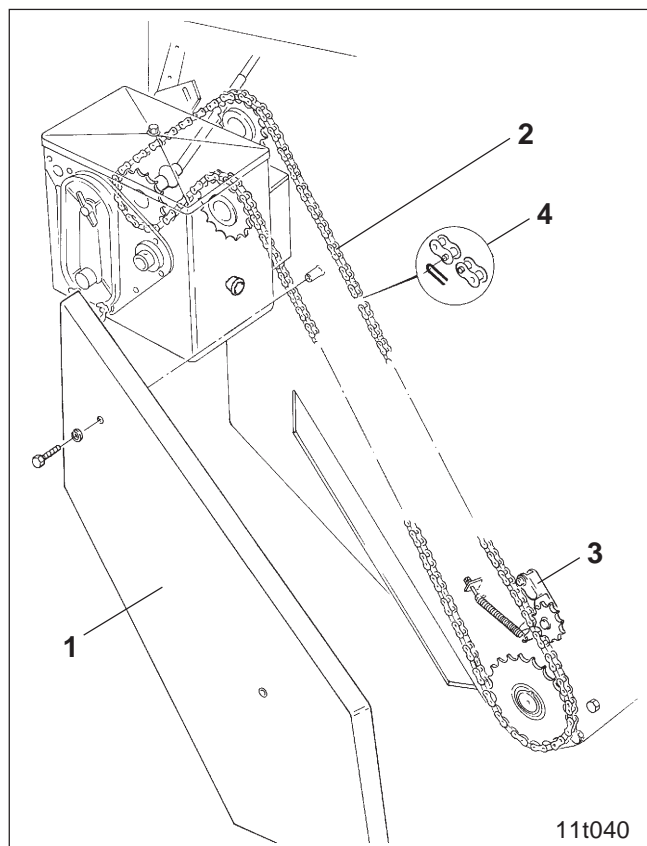

Fig. 50.6
- Remove chain guard (Fig. 50.6/1)
- The drive chain (Fig. 50.6/2) is tensioned by a spring loaded chain tensioner (Fig. 50.6/3). Relief drive chain or loosen chain joint (Fig. 50.6/4) and remove drive chain